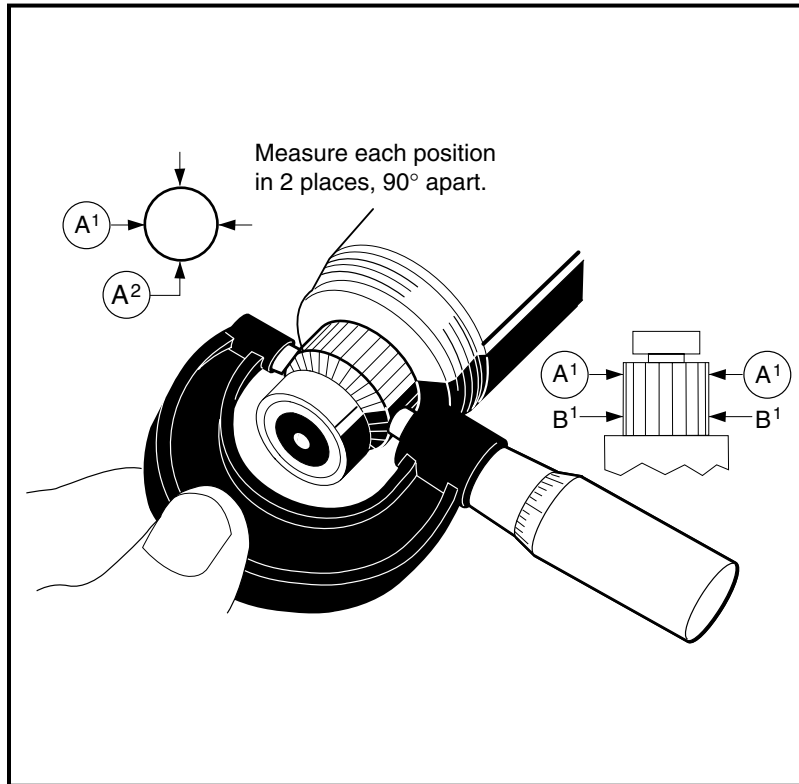

Figure 12-12 Inspect Commutator
- Using a micrometer, measure the outside diameter at four points; two points 90° to each other to the outside of the commutator (A1 and A2), and two points 90° to each other to the inside of the commutator (B1 and B2). If the commutator diameter is less than 1.535 inches (39 mm) at any of the four locations, replace the armature assembly and bearings (**Figure 12-12, Page 12-9**).